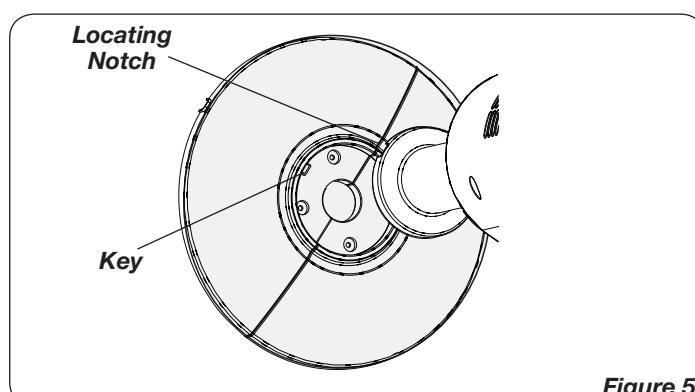
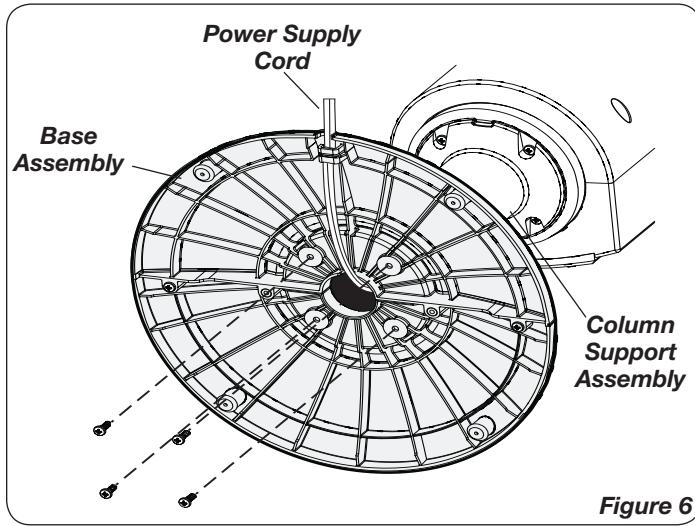

Figure 5
Figure 6
- Align the Base Assembly with the Column Support Assembly. Make certain to align the Locating Notch on the Column Support Assembly with the Key on the Base Assembly (Figure 5). Attach the Base Assembly to the Column Support Assembly with (4) M5 X 13mm Screws. Gently pull any excess slack of the Power Supply Cord and place it in the Cord Channel of the Base Assembly. (Figure 6)